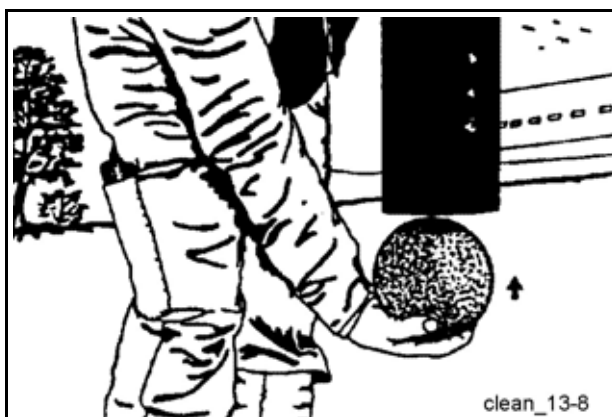

Fig. 242 Sponge rubber ball
- First push the damp sponge rubber ball into the end hose (Fig. 242), then switch the concrete pump to "Suction" (reverse running) with a lower stroke rate.